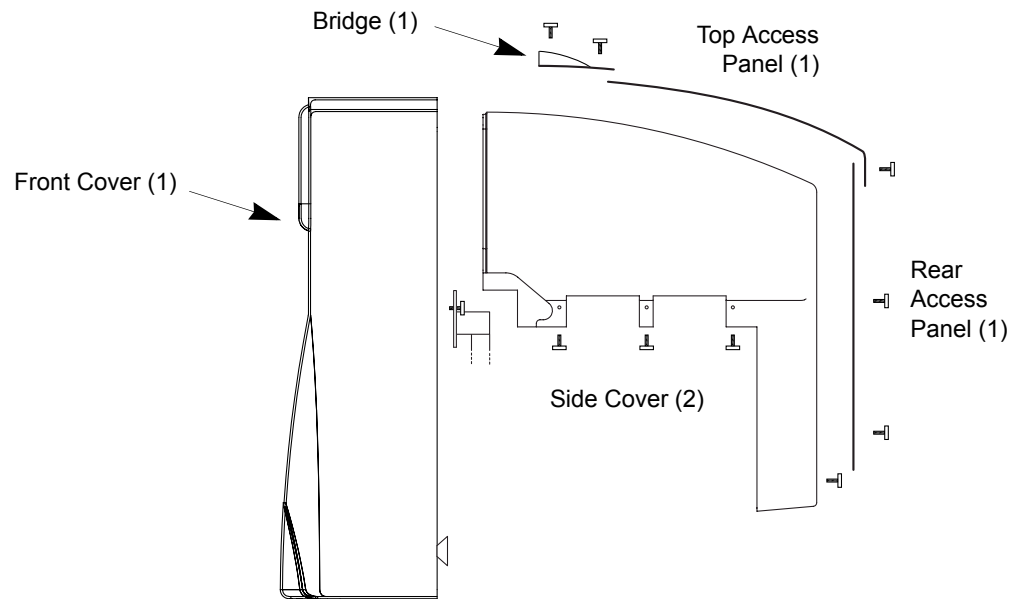

Figure 6-12 Replacing the Covers
- a. Reinstall the Side Covers using the six side screws (three per side) and two back screws (one per side) that secure the covers in place; see *Figure 6-12*.
- a. Set the Front Cover in place; i.e., downward, toward the Summit 800; see *Figure 6-12*.